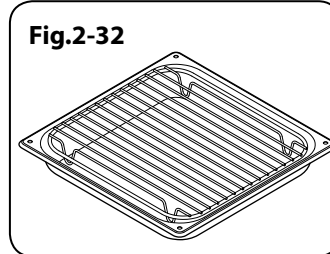

Fig.2-32
- Two grill pans with trivets (Fig.2-32)